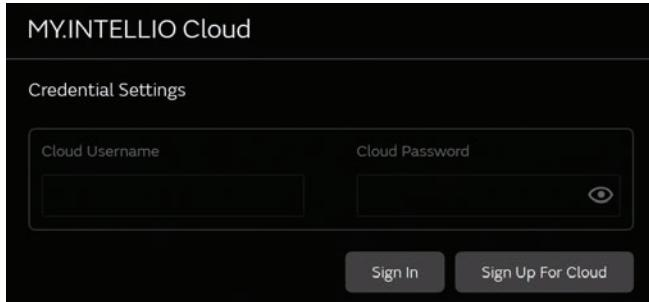

Figure 32. MY.INTELLIO Cloud Settings
From the Credential Settings (Figure 32), tap the appropriate button; Sign In or Sign up for Cloud.
1. Tap on **Sign In** (Figure 32).